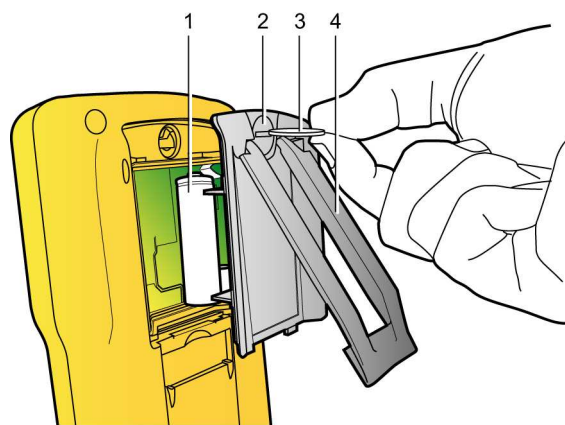

Figure 4: Access to storage batteries. 003
The C.A 8230 is powered by six rechargeable NiMH storage batteries (Figure 4, item 1) in AA format (LR6 - NEDA 15) having a capacity of at least 1800 mAh. At least 8 hours of self-contained operation with the screen on is ensured. If the screen is off (standby mode during an alarm or recording campaign), at least 40 hours of self-contained operation are ensured.
The storage batteries can be reached, from the back of the C.A 8230, after turning the "quarter turn" lock (Figure 4, item 2) anti-clockwise; use a coin (Figure 4, item 3).
A retractable prop (Figure 4, item 4) on the back of the C.A 8230 holds the instrument in position 30° from the horizontal.